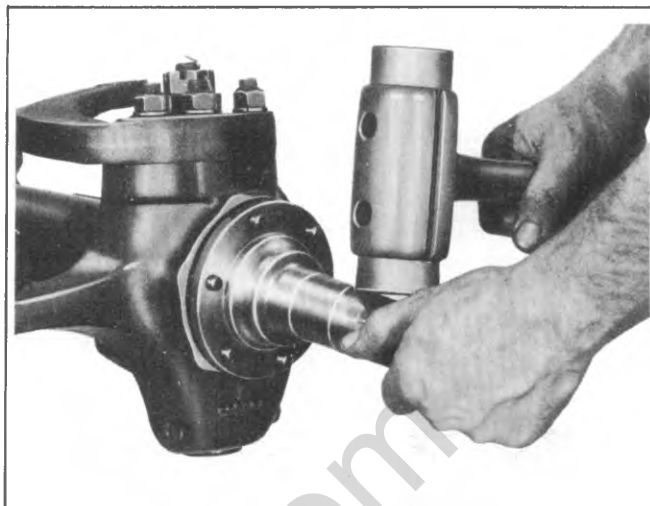

Fig. 3C-6K--Removing Spindle and Thrust Washer
3. Remove the spindle and bronze thrust washer by tapping the end of the spindle lightly with a soft hammer to break it loose from the knuckle as shown in Figure 3C-6K. Replace the thrust washer if excessive wear has occurred.